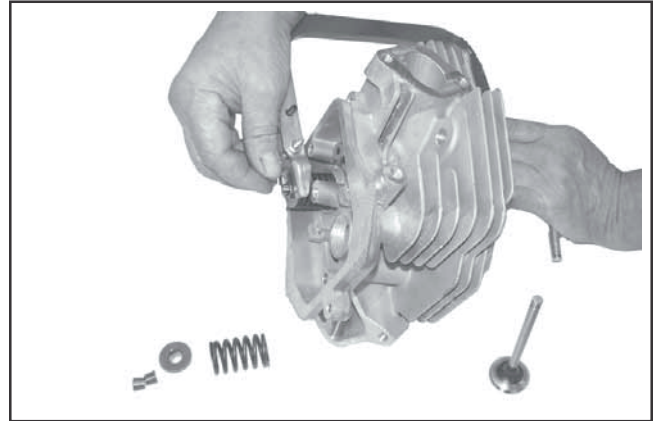

Figure 8-45. Removing Valves with Valve Spring Compressor.
2. Compress the valve springs using a valve spring compressor. See Figure 8-45.